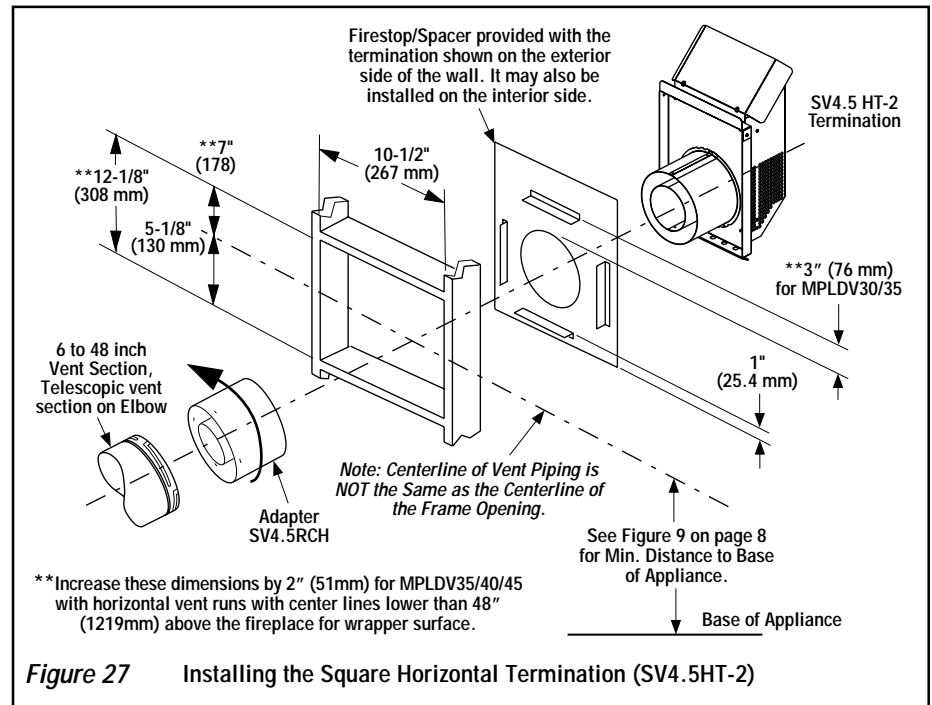

Figure 27 Installing the Square Horizontal Termination (SV4.5HT-2)
M. Attach termination adapter - Attach the adapter (SV4.5RCH - provided with the termination) to the vent section or telescoping vent section, elbow as shown in **Figure 27** in the same manner as any SV4.5 vent component (refer to **Step F**).
N. Install Firestop/Spacer at exterior wall - When using the square termination, install the SV4.5HF (Secure Vent) or SF4.5HF (Secure Flex) Firestop/Spacer over the opening at the exterior side of the framing (long side up) as shown in **Figure 27**, and fasten into place. Ensure 5" clearance is maintained by framing above the vent run for MPLDV35/40/45 when center line of the run is lower than 48" (12119 mm) above the fireplace top wrapper surface.